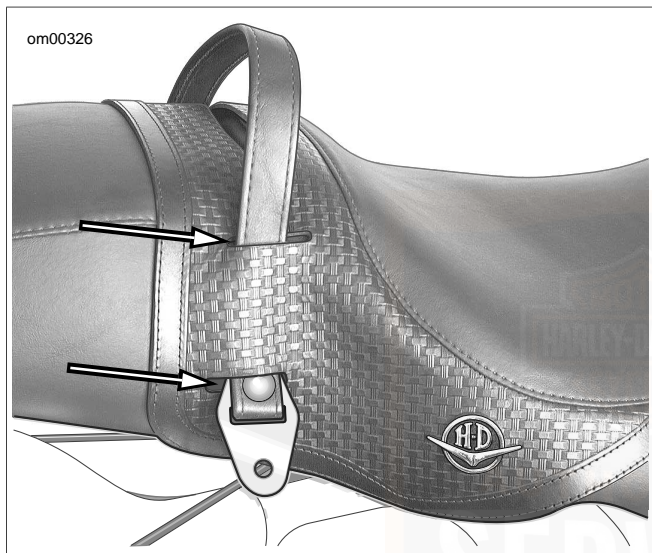

Figure 82. Strap Slots: FLHRC
3. See Figure 82. On FLHRC models, the seat strap is routed through slots in the seat. Carefully pull passenger seat strap through slots to remove.
6. See Figure 82 On FLHRC models, route free end of passenger seat strap to left side of vehicle through slots in the seat.